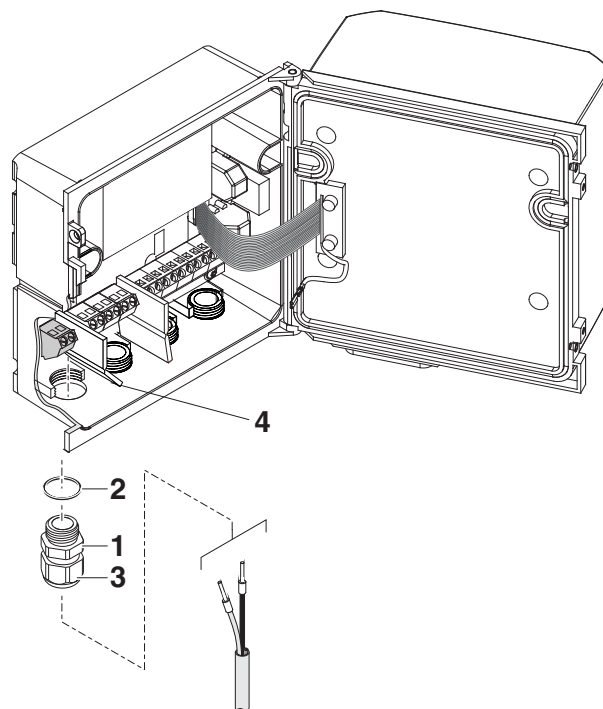

figure 3-29 Inserting the 24V AC/DC line
- 5 Screw a cable gland (pos. 1 in figure 3-29) with sealing ring (pos. 2) into the enclosure below the 24 V AC/DC connection.
- 6 Loosen the coupling ring (pos. 3).
- 7 Feed the 24 V AC/DC line through the cable gland into the enclosure. When doing so bend the flexible divider (pos. 4) to the right.
- 9 Tighten the cap nut (pos. 3 in figure 3-29).